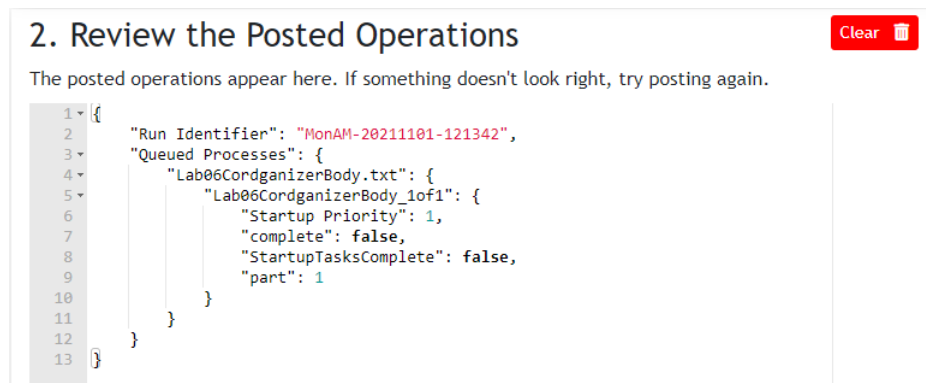

Figure 8: Posted Operations
12. *Step Two* on the **FMC Overview** asks the BUMES operator to check the posted operations. This is the final opportunity to review the operations before execution. This is shown in detail in Figure 8. The run-identifier contains the current user, and a timestamp. In a future step, this will also contain the execution mode.